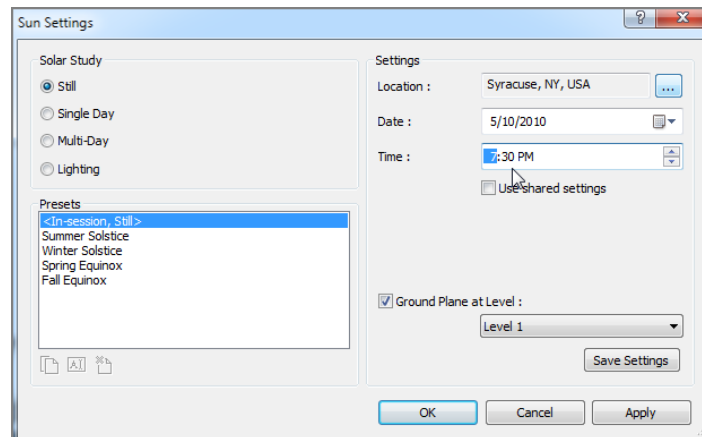

FIGURE 19.15: Changing the scene to dusk
11. Make sure Solar Study is set to Still, and change the time to 7:30 PM, as shown in Figure 19.15.